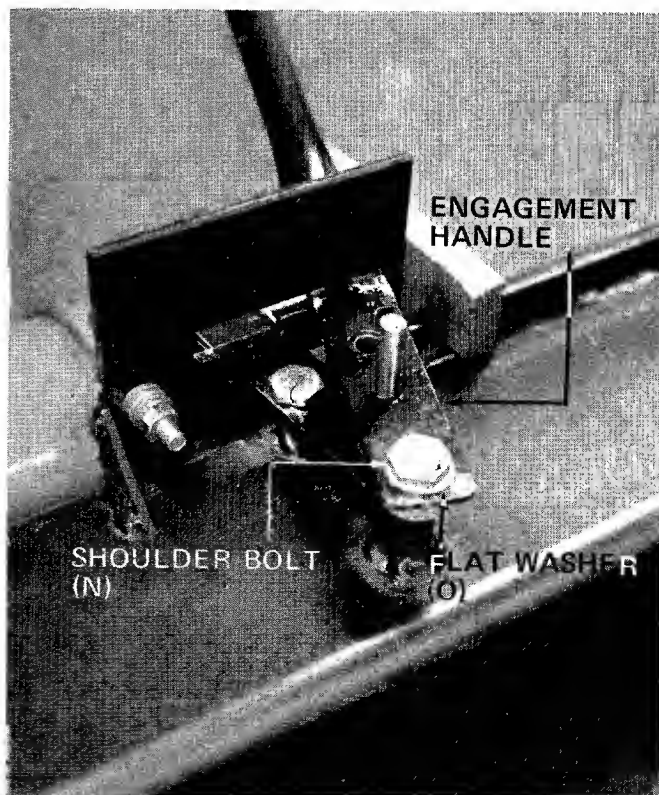

FIGURE 6
7. Secure engagement handle to beam with shoulder bolt (N) and flat washer (O). See figure 6.